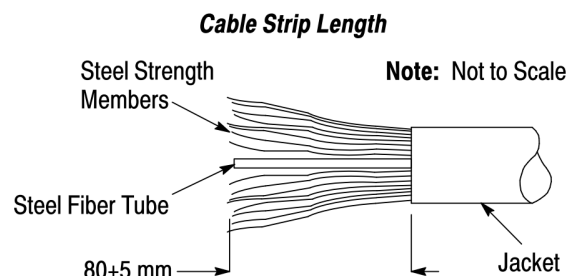

Figure 3
2. Using the cable jacket strip tool, strip the jacket to the dimension shown in Figure 3, exposing the steel strength members and steel fiber tube. (Heating the jacket first with the heat gun will make the jacket easier to strip.)